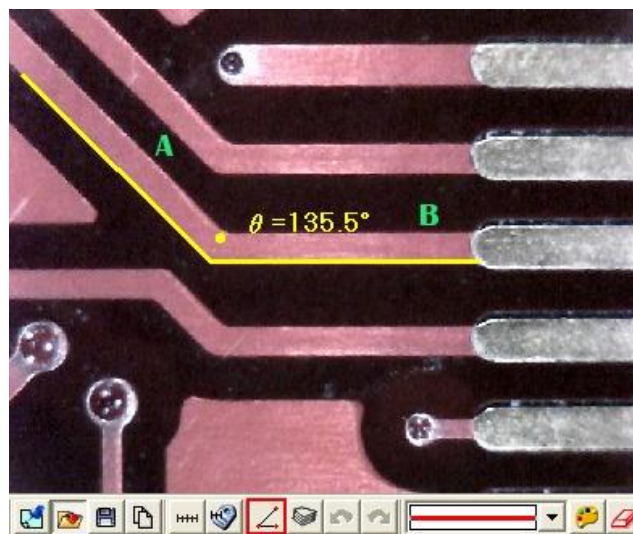

Fig 5-70 3 Points Angle
- (7) 3 Points Angle: Measure the angle on the object and use . In Fig. 5-70, it can see an angle on the object, draw a line and stop at the corner of angle, and then draw the other line from the angle; the angle can be automatically calculated. a dot shows the measured angle, it is 135.5° .